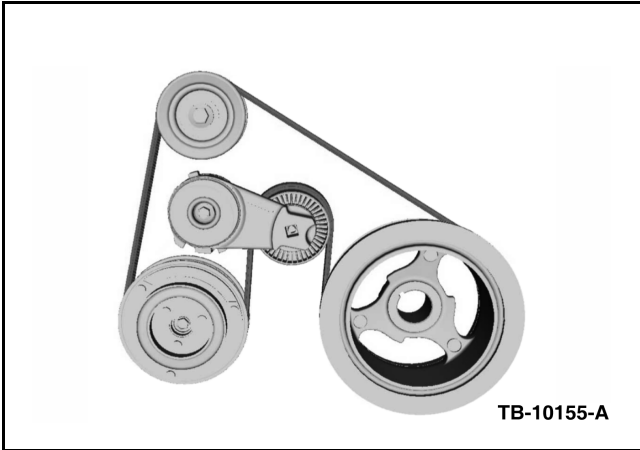

Figure 2 - Article 12-8-14
6. Install A/C compressor drive belt idler pulley and A/C compressor drive belt idler pulley bolt supplied in the service kit. Tighten to 25 N•m (18 lb-ft). (Figure 2)
7. Install A/C compressor drive belt tensioner supplied in the service kit. Tighten to 25 N•m (18 lb-ft). (Figure 2)
8. Install A/C compressor drive belt supplied in the service kit. (Figure 2)